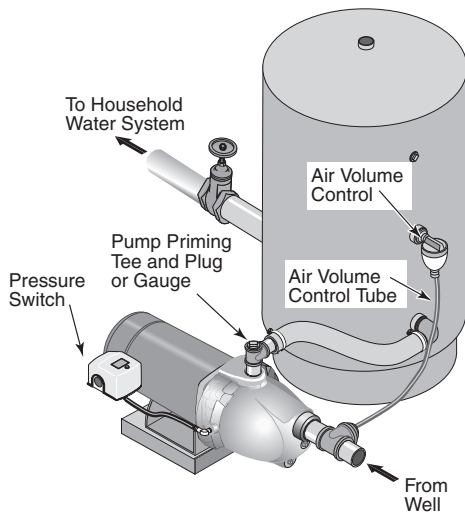

Figure 5 - Standard Tank Connections
Standard Tank Connection (Figure 5)
1. Install one tee in the pump discharge port (see Figure 5).